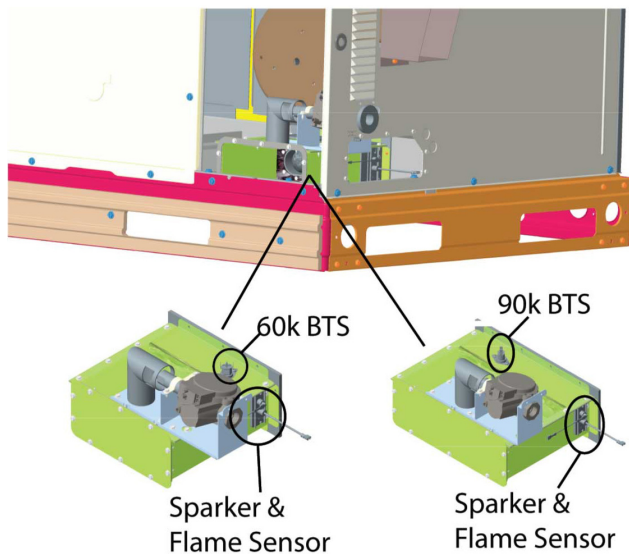

Fig. 20 – Burner Thermal Switch (BTS) (Ultra Low NOx) A200287
2. Remove 2 screws holding the flue hood (Fig. 20) and remove the flue hood.
6. Re-connect flue hood (Fig. 20) using the 2 screws removed.
NOTE: For Ultra Low NOx The combined flame sensor/sparker is located on the right side of the burner box (See Fig. 20). The flame sensor/sparker is accessible for service by removing the cover in the right side panel. The burner thermal switch (BTS) is located on the top of the burner box. For 60k heat sizes, the BTS switch is accessible through the cover in the right side panel. For 90k heat sizes, the BTS switch is accessible by removing the control access panel.